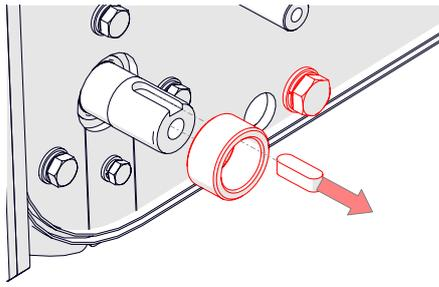

Fig.12B - Remove the pulley spacer and keyway
3. Remove the pulley spacer and keyway (Fig. 12B).